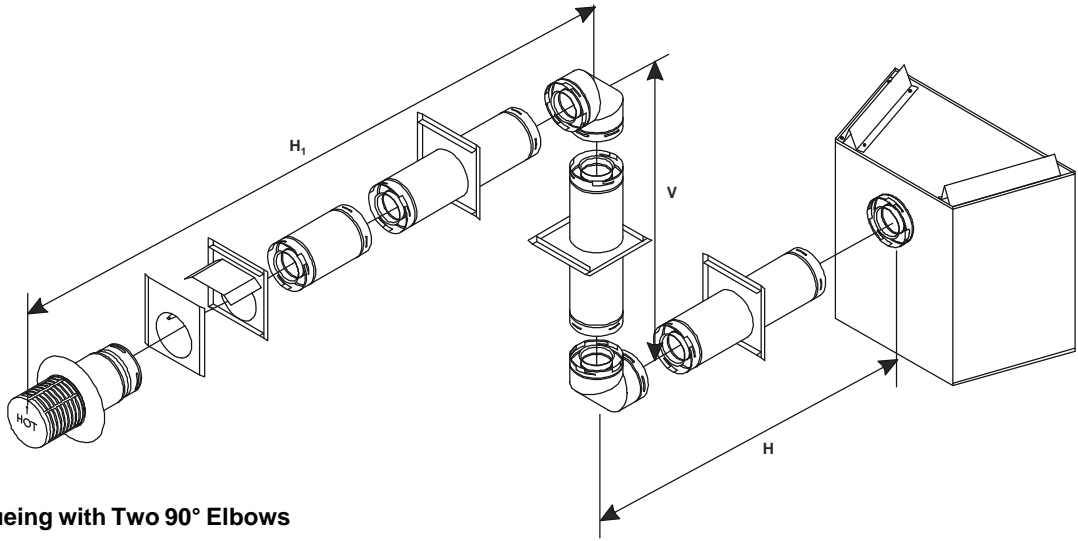

FIGURE 9. Flueing with Two 90° Elbows
Figures 9 and 10 show examples of possible installations using two (2) 90-degree elbows. Dimension V is listed as **MINIMUM** vertical dimensions, dimension H is listed as **MAXIMUM** beginning horizontal dimensions, and dimension $H+H_1$ is listed as corresponding **TOTAL MAXIMUM** horizontal dimensions.